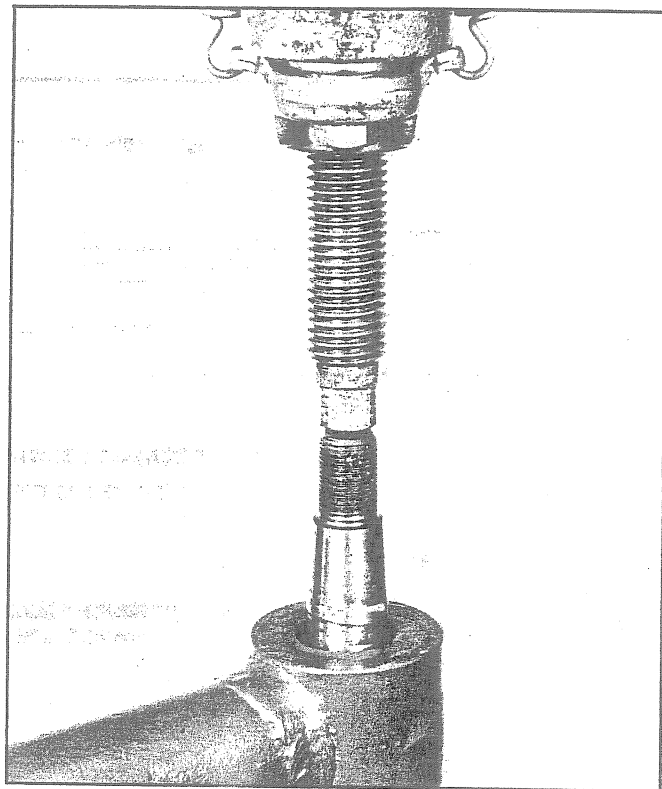

Fig. 74 - Pressing Ball Stud from Housing
2. Press ball stud from tie rod housing as shown in Fig. 74.